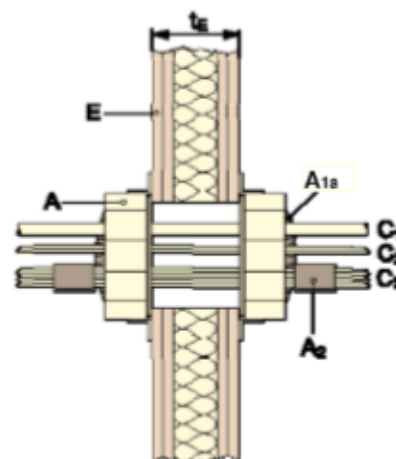

Figure 10: Flexible wall penetration
- Hilti Firestop Cable Collar CFS-CC (A), thickness of penetration seal ( $t_A$ )  $\leq$  200 mm
- Penetrating elements ( $C_1$ ) - see illustration Figure 10 in Annex C.2.2 of the ETA